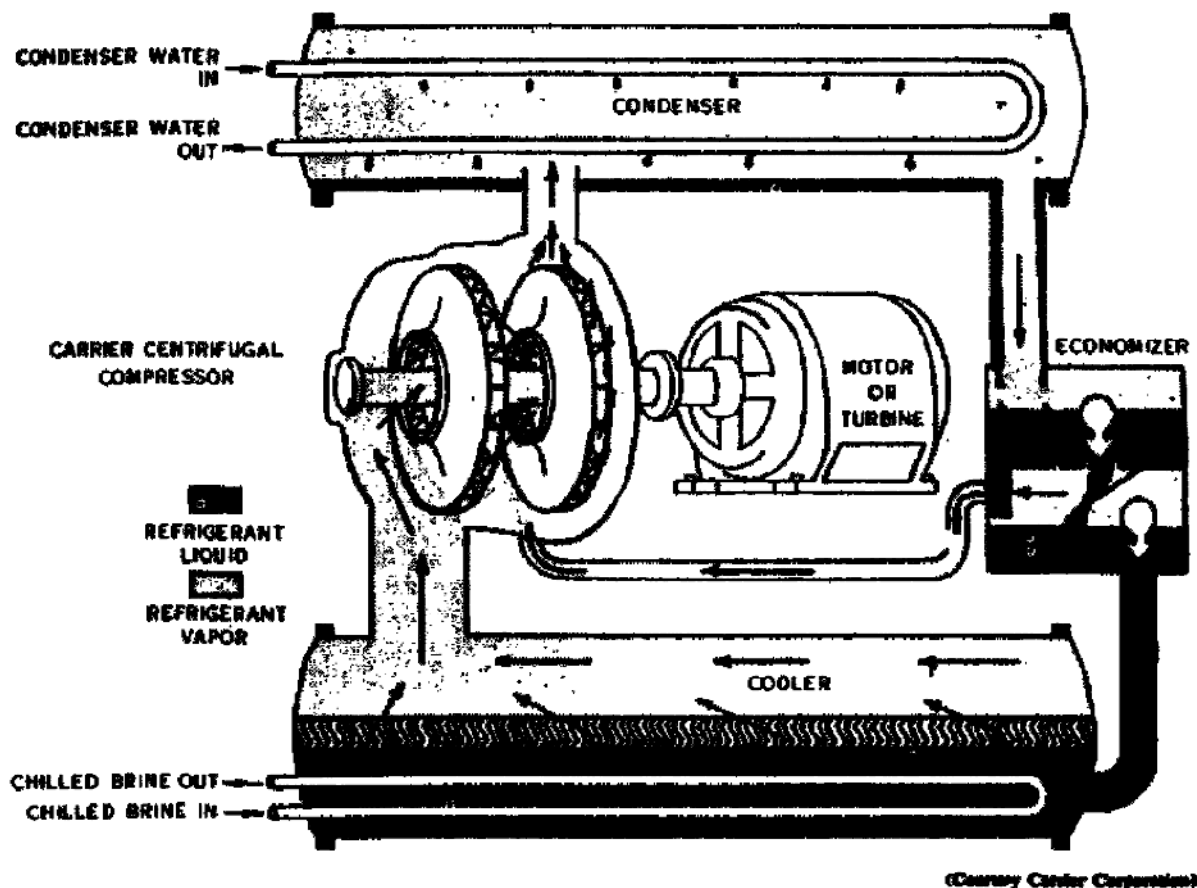

Figure 41. Centrifugal cycle.
3. A schematic of the centrifugal cycle is shown in figure 41. We will begin the cycle at the evaporator. The chilled water flowing through the tubes is warmer than the refrigerant in the shell surrounding the tubes, and heat flows from the chilled water to the refrigerant. This heat evaporates the refrigerant at a temperature corresponding to the pressure in the evaporator.